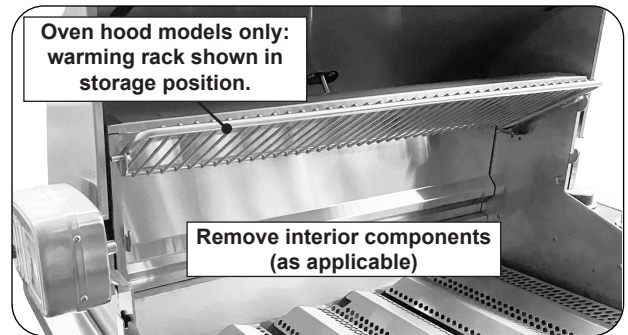

Fig. 3-1 Prepare grill for rotisserie cooking
1. **Oven hood models:** Set the warming rack to storage position (see Fig. 3-1). The warming rack may also be removed if needed.